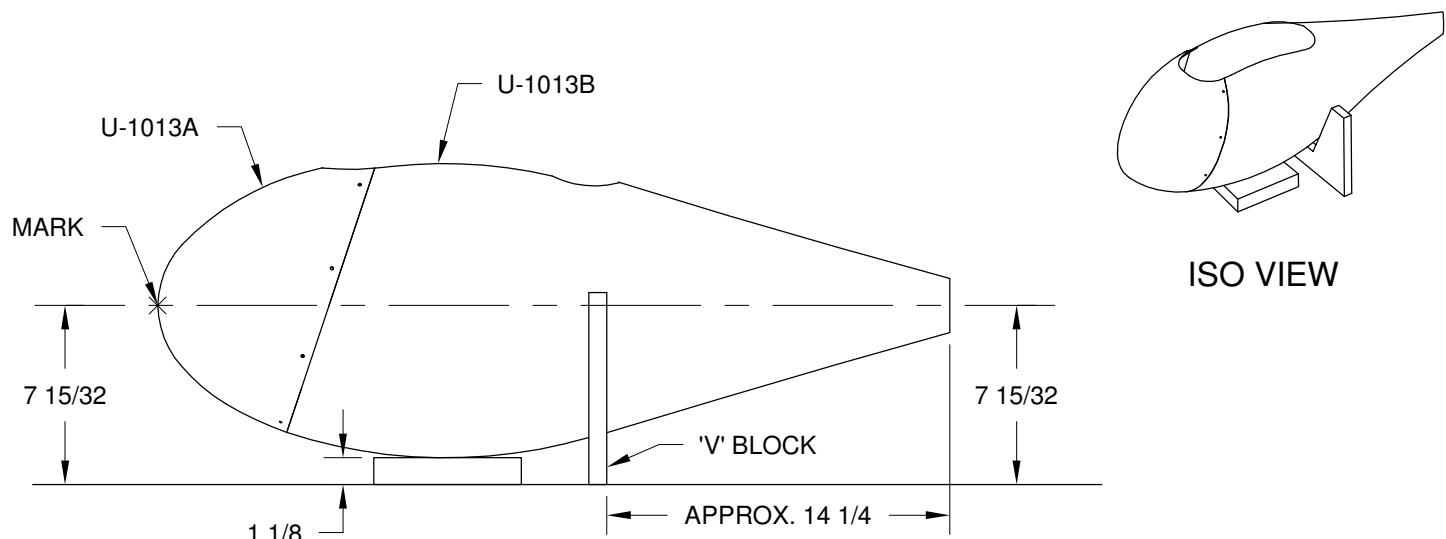

FIGURE 2: MARK FAIRING CENTERLINE AT ITS NOSE
Step 2: Tape the U-1013A and B Wheel Fairing halves together and place them into the 'V' block with the wheel opening facing upward as shown in the Iso View of Figure 2. Rotate the assembled fairing about its long axis until the vertical centerline drawn at the back of the wheel fairing rear is vertical and check it with a square.